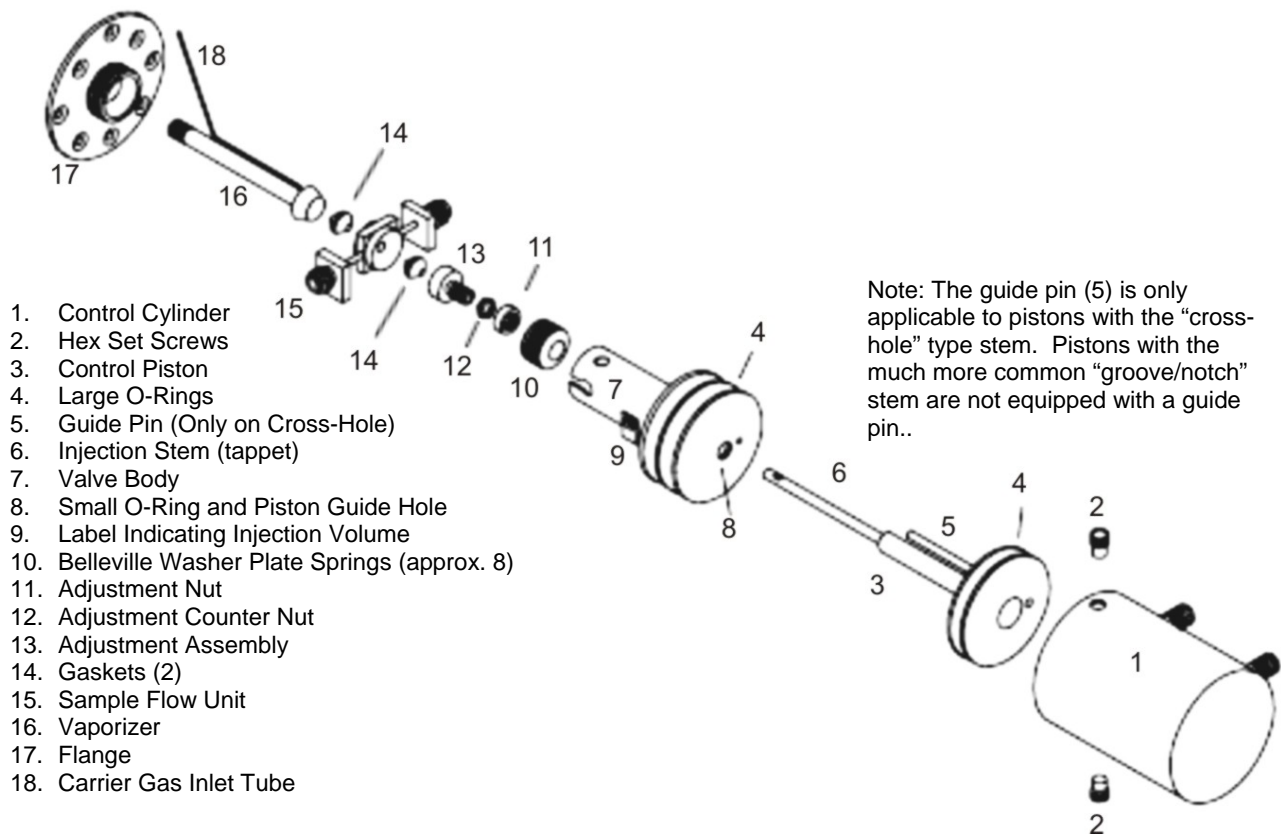

Figure 4-48: Liquid Injection Valve Exploded View
Throughout this section, the numbers located next to part names, such as “Flange (17)”, refer to callouts listed in Figure 4-48. Refer back to Figure 4-48 for part locations.
A sample that contains non-volatile or easily polymerized components (salts, proteins, monomers etc.) can deposit residues in the vaporizer (16), in the injection hole, on the sample flow unit (15), and on the injection stem (6). Therefore, these parts should be cleaned regularly if the sample contains materials which are not vaporized. Refer to Figure 4-48 for part locations.
Figure 4-48 is an exploded view of the valve. Use this figure to aid you in removal and replacement of parts. Parts shown for the heater and sensor area may vary depending upon the valve type.
Refer to Figure 4-48 for the following procedure.
Refer to Figure 4-48 for the following procedures.
Refer to Figure 4-48 for the following procedures. The silicone O-rings of the pneumatic drive should be regularly greased with Dow Corning Grease 111, 44 or equivalent.
Read the following notes before performing the assembly procedure. Refer to Figure 4-48 for the following procedures